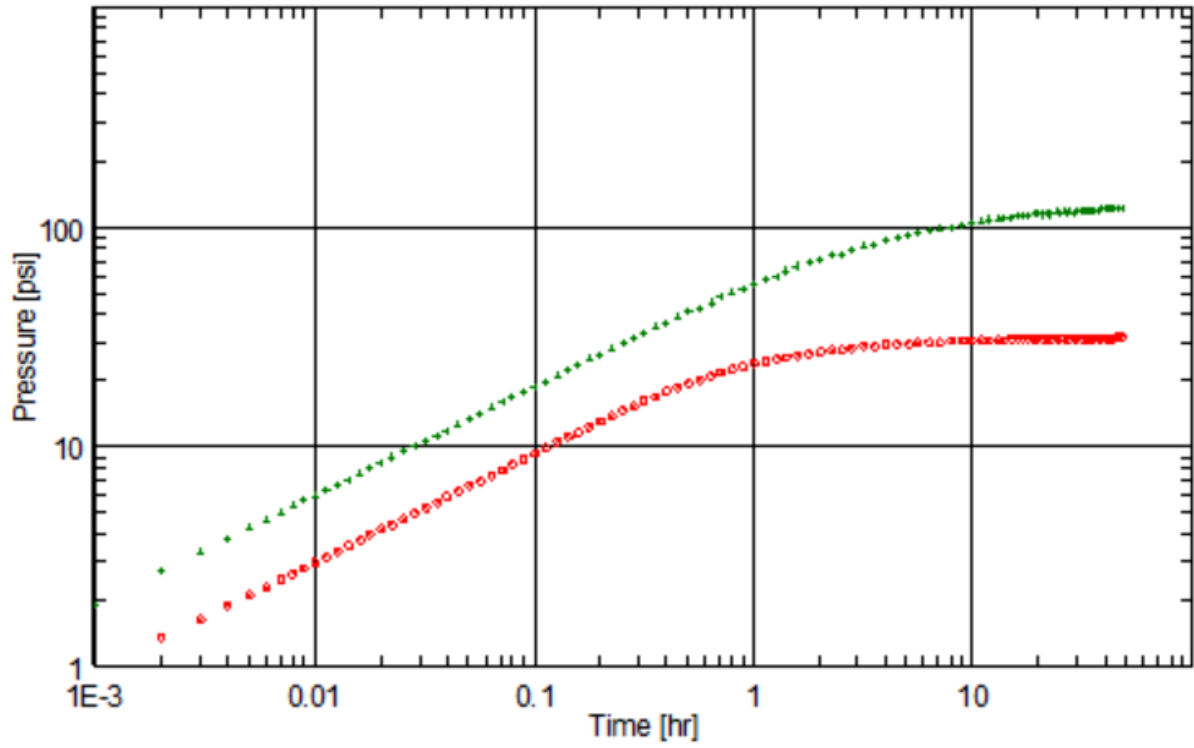

Figure 3: Pressure build-up (green) and pressure derivative (red) for fractured well.
With data from a 48 hours build-up in a newly fractured well following 12 hour production at 500 STB/D, use parameters from Table 1, pressure build-up data from Table 3 and Fig. 3 to answer the questions and carry out the analysis below.
- (a) Fig. 3 shows a log-log plot of the build-up data. Identify flow regimes in the data and indicate the range of each (start and end). (4 p.)
- (b) With Fig. 3 as reference, carry out a standard semi-log analysis of the build-up data based on representative data points from Table 3 to compute m , k , p_{1hr} , S and Δp_s . (10 p.)
- (c) With Fig. 3 as reference, use representative data points from Table 3 to compute the slope, m' , and using the permeability value from the previous task, estimate fracture half-length, x_f . Compared to the computed skin value, what is likely fracture type? (6 p.)